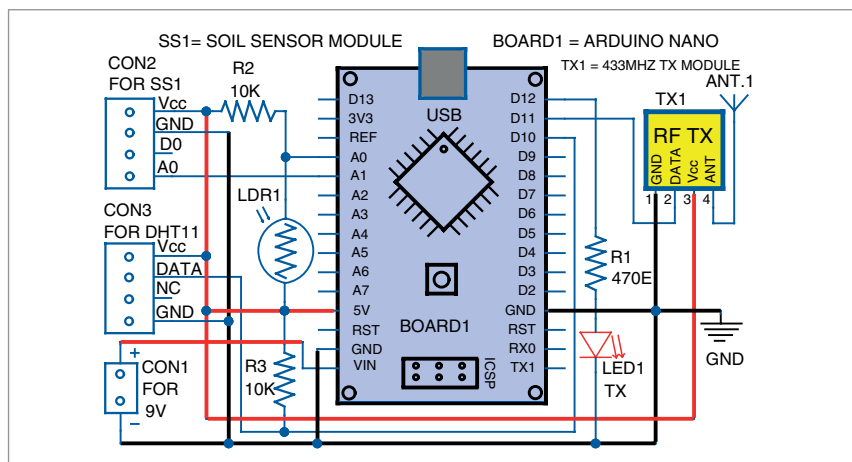

Fig. 2: Circuit diagram of a wireless sensor node
As shown in circuit diagram of a sensor node in Fig. 2, there are only five major components in the transmitter circuit:
1. Sensor DHT11 that has three interfacing pins: Vcc, Gnd, and Data Out. Vcc pin is given 5V supply from Arduino board and Gnd pin is connected to common ground. Data Out pin is connected to digital pin D10 of Arduino Nano board. It is pulled high by pull-up resistor R3, as shown in Fig. 2.